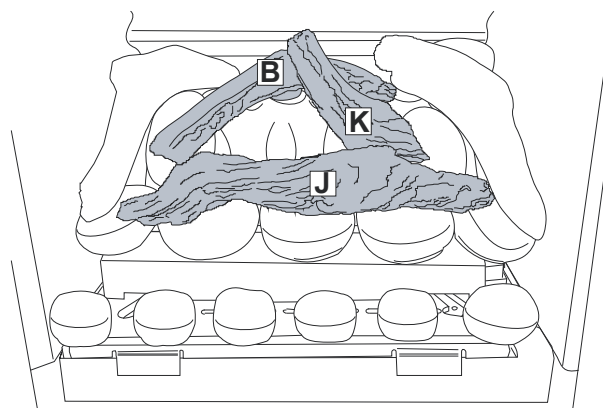

Figure 36
6. Next place the **B**, **J** & **K** driftwood pieces as in **Figure 36**.